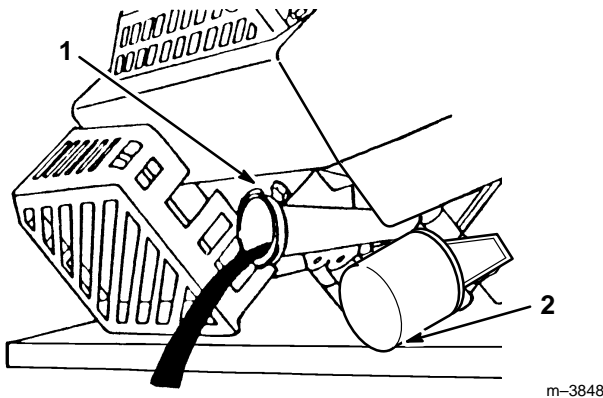

Figure 19
4. Tip mower on its left side, allowing oil to drain into drain pan (Fig. 19).
Replace the oil filter (Fig. 19) after every 100 operating hours or yearly, whichever occurs first.